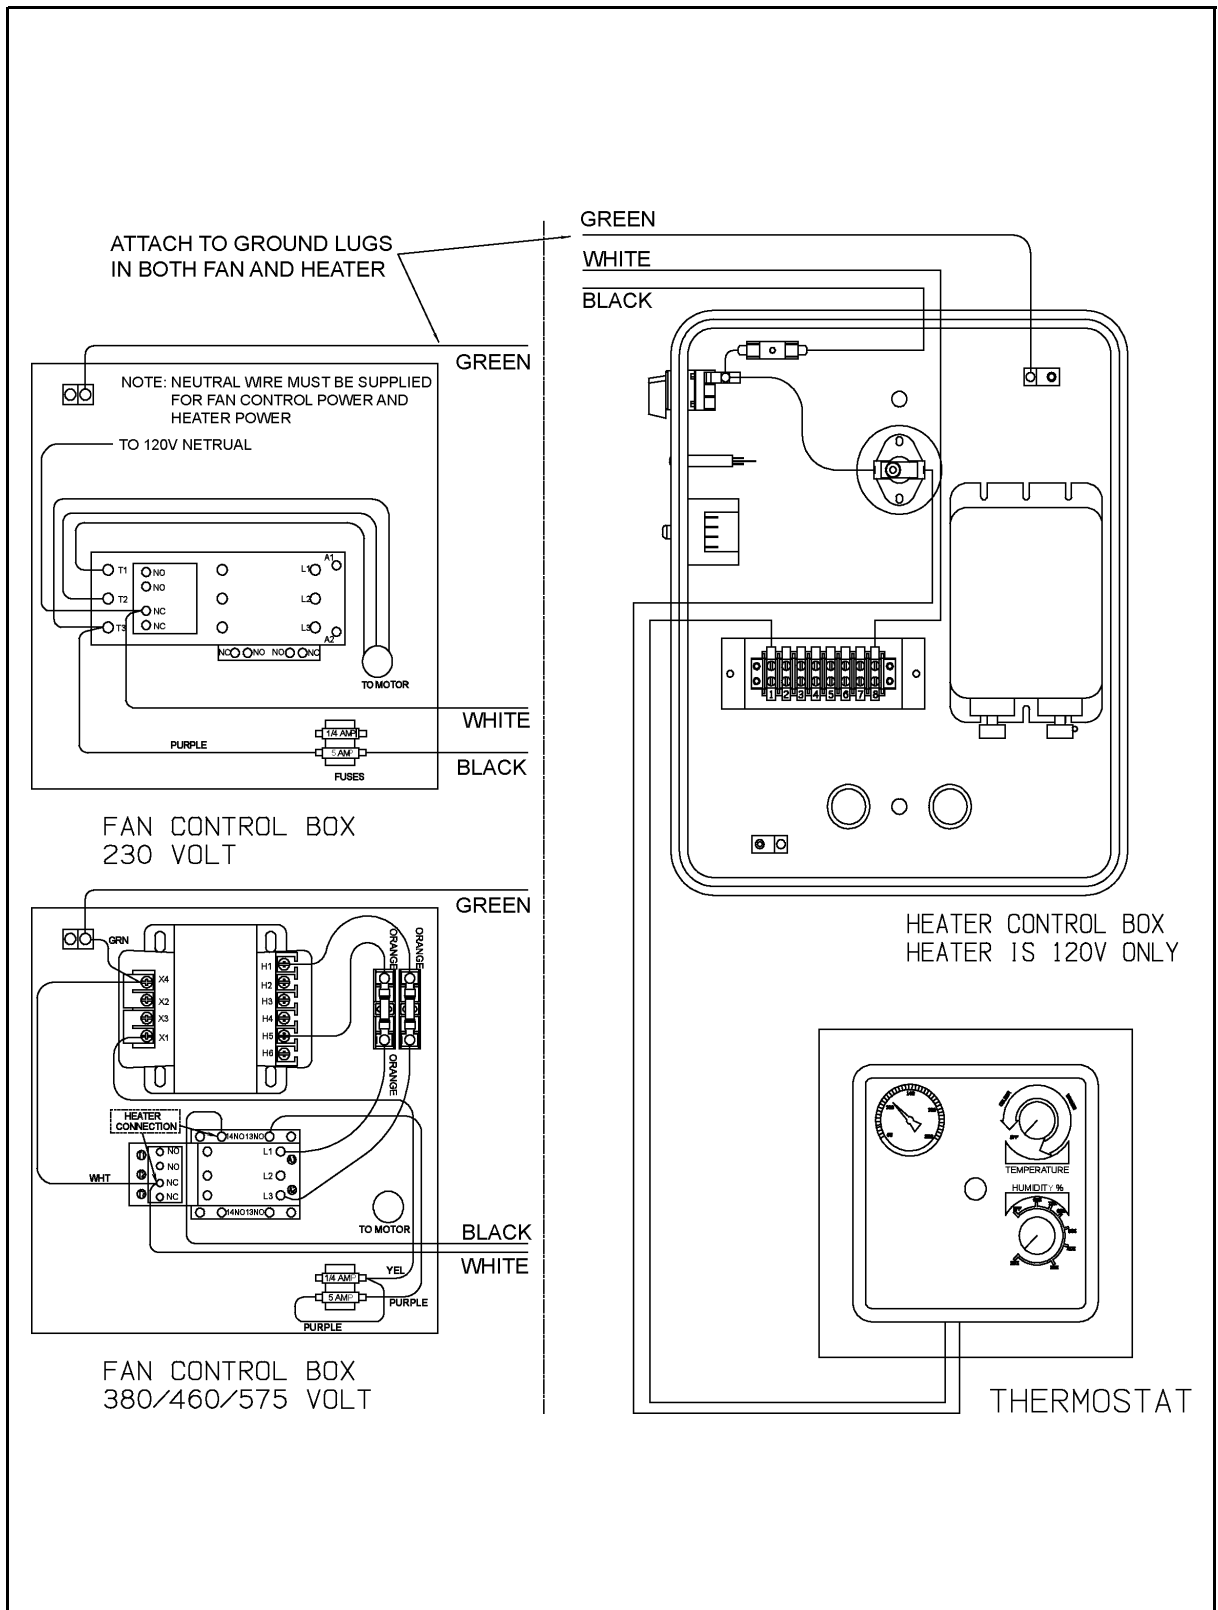

Figure 5B Heater Wiring Installation on a Fan Unit
2. Make field connections in fan box as shown in Figure 5B.
3. Connect deluxe thermostat control (optional) as shown in Figure 5B.